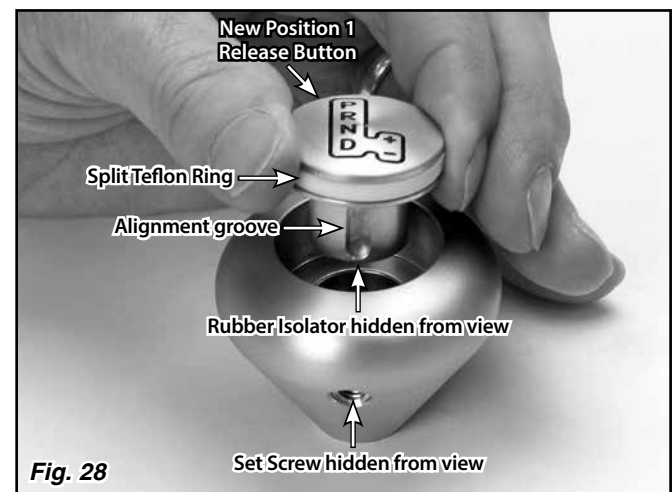

Fig. 28
**Step 13:** Place the split Teflon ring in the groove on the new Position 1 release button. Hold the ends of the split Teflon ring together under one of your fingers, and install the Position 1 release button into the knob, making sure the alignment groove in the release button is aligned with the set screw. **Fig. 28**